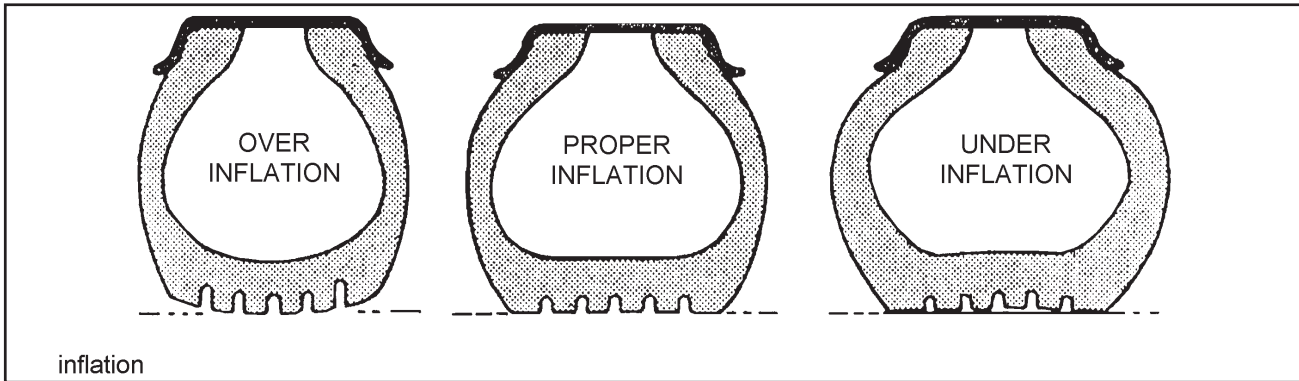

Figure 4-1 Tire Inflation Examples
**4-10.1 Tire Inflation.** Tire inflation will cause tire to ground contact characteristics as shown in **Figure 4-1**. Tire inflation should be checked daily while the tire is cold, and during road stops. Checking the tire pressures while tires are hot will give a faulty increased pressure reading. Adjusting tire air pressure to the specified amount while tires are hot will produce improper tire to road contact and